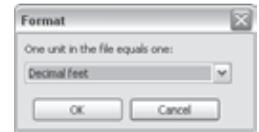

Figure 7.36
6. Click the Finish Toposurface button. Figure 7.36 represents an editable toposurface in Revit and the completed toposurface.